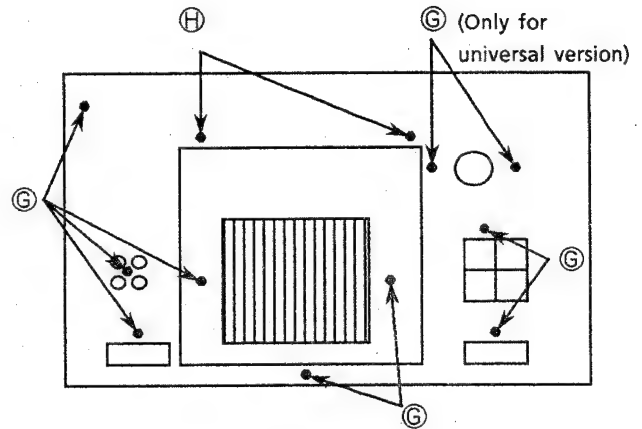

Fig. 5 Rear view
1. Remove the 2 screws ③ (Fig. 5).
3. Remove the screws ③ (Fig. 5).